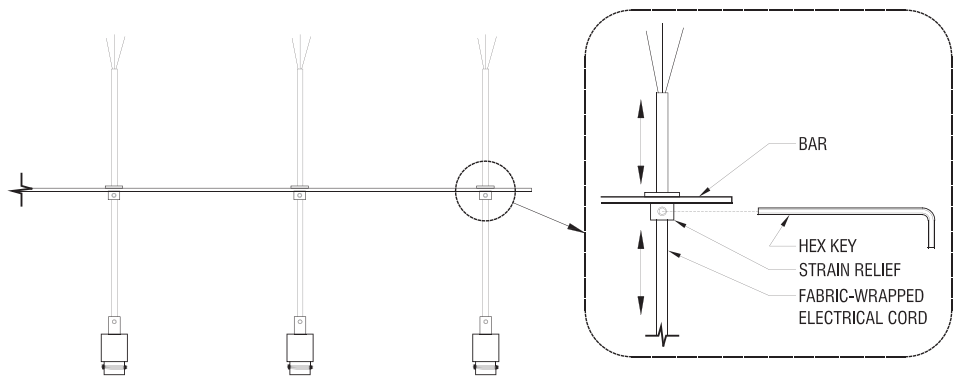

Figure 4. Pass cords through bar
- 6 Pass the fabric-wrapped electrical cords of each individual pendant through the strain reliefs on the flat bar. The side of the bar with the strain reliefs will face downward (Figure 4). Determine the desired length for the pendants to hang below the bar and then tighten the set screw strain reliefs so that all pendants are the same length. Do not overtighten or damage the fabric covering or the electrical cords themselves.